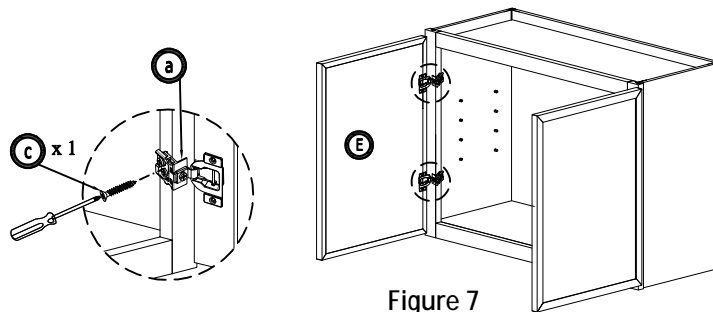

Figure 7
7. Assemble door with hinges to left and right of cabinet frame by 4 screw 4/5" (Figure 7)